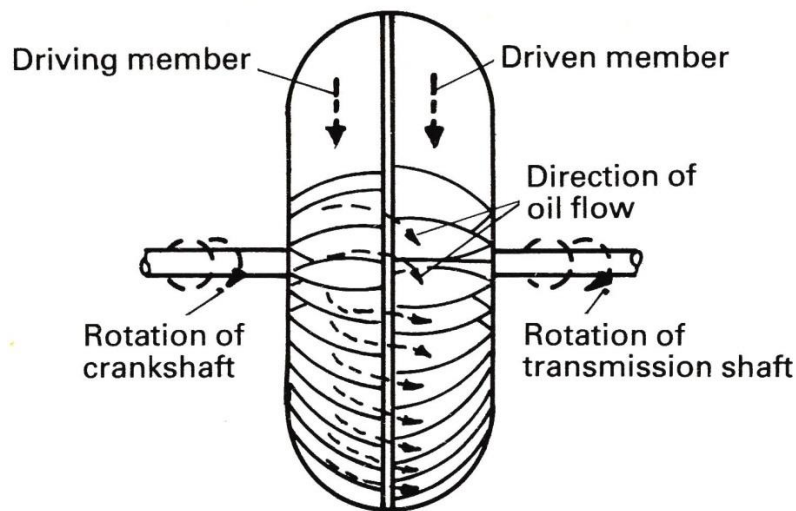

Figure 7.12 Hydraulic clutch
4. To make an efficient hydraulic clutch, oil is used as the fluid and the two halves of the clutch are mounted very close together and enclosed in a housing. **Figure 7.12** shows the two members of a hydraulic clutch.